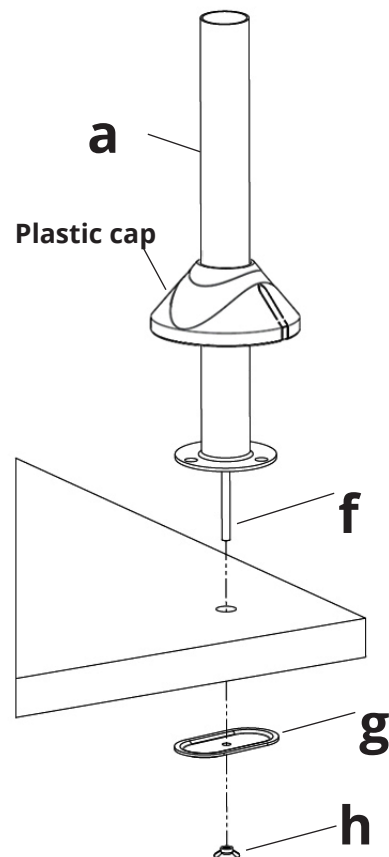

Figure 4
3. Place the tube support on the mounting surface and secure using the Grommet plate (g) and Wing nut (h), see Figure 4.